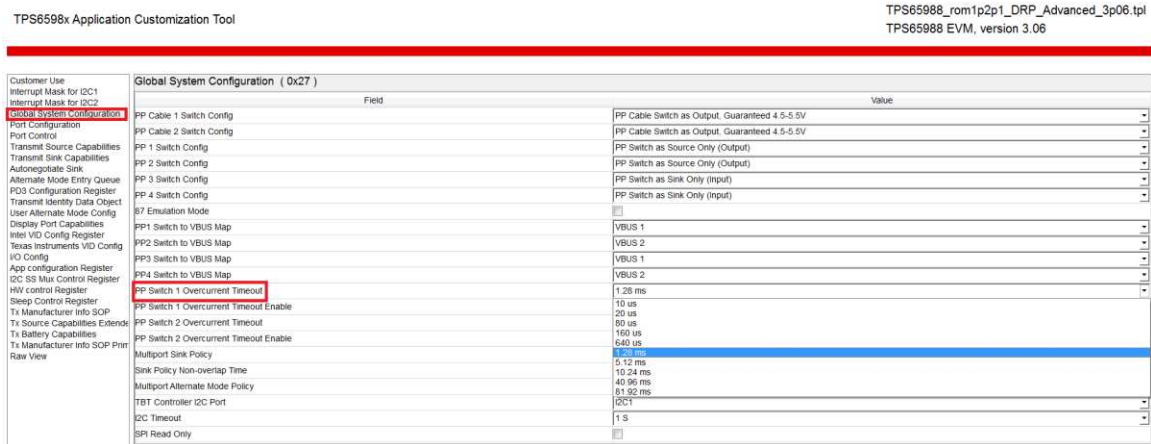

Figure 4. Global System Configuration Window
1. Navigate to Global System Configuration to configure the intended Overcurrent Timeout value. The drop-down box allows for multiple time-out configuration settings (see Figure 4).